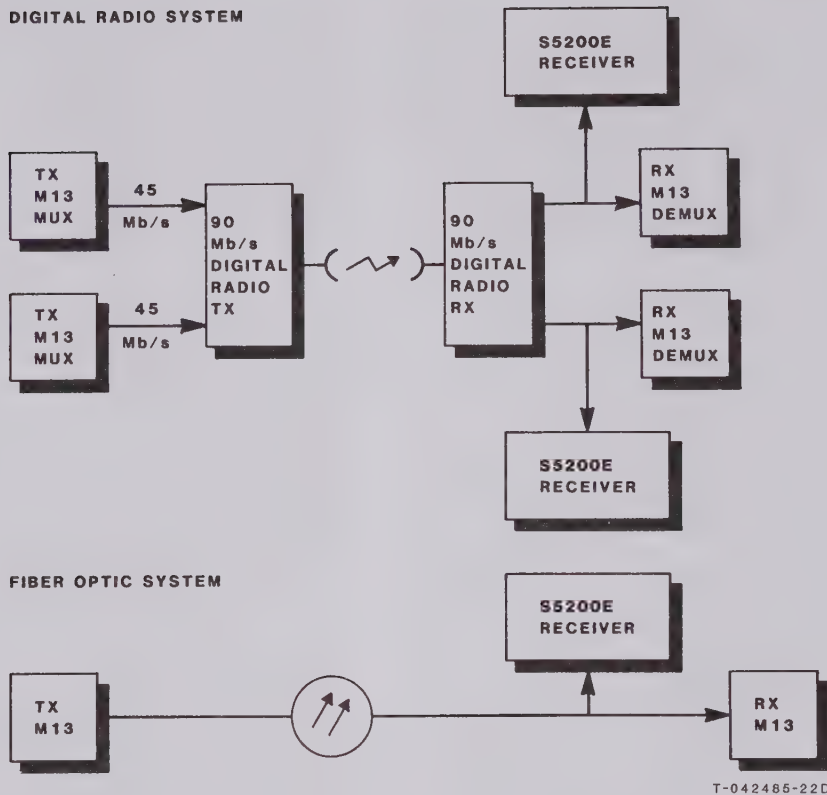

Fig. 17 - System Testing for Parity Errors
A.09 The parity-error mode is used to measure live traffic on standard data format DS3 signals generated by MX3 or M13 multiplexers (see Fig. 17). Parity measurements can be made on
A.15 The frame-error mode is used to measure live traffic on standard data format DS3 signals generated by MX3 or M13 multiplexers (see fig. 17). Generally, parity measurements can be made on single hops or multi-hops if the parity is not restored at each repeater in the multi-hop system. Most multi-hop systems that restore parity do not generally restore or correct the frame, F1 and F0, bits. For these systems, frame error measurements may be the only way to detect system errors on live traffic. Also, for systems with error rates exceeding 2.1×10^{-4} error rate (the parity error measurement limit), frame error measurements provide an accurate way to determine error rate.